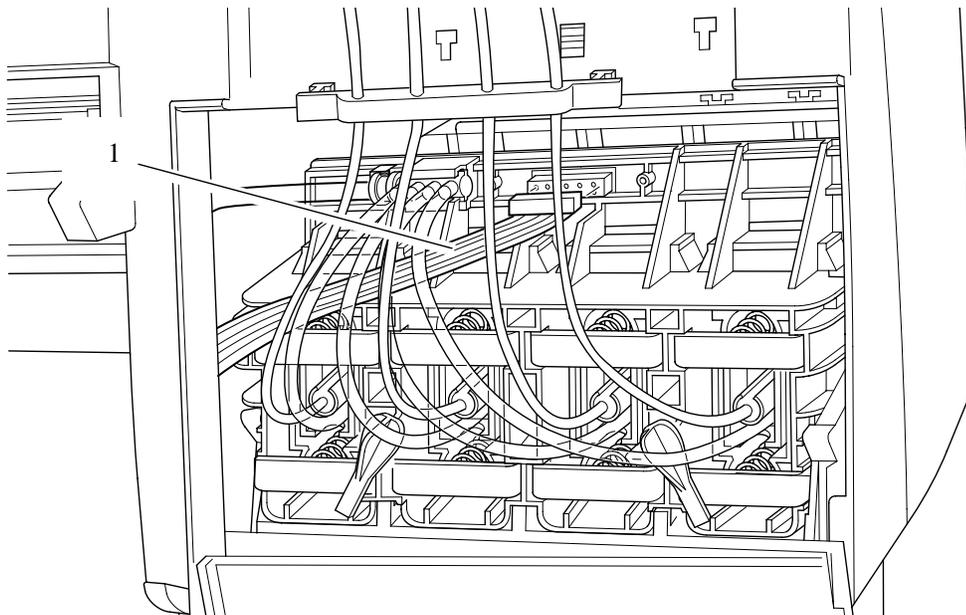

Figura 12: "Ink Cartridge Tube Connector Cable"
5. Desconecte el "ink cartridge tube connector cable" (consulte la Figura 12).